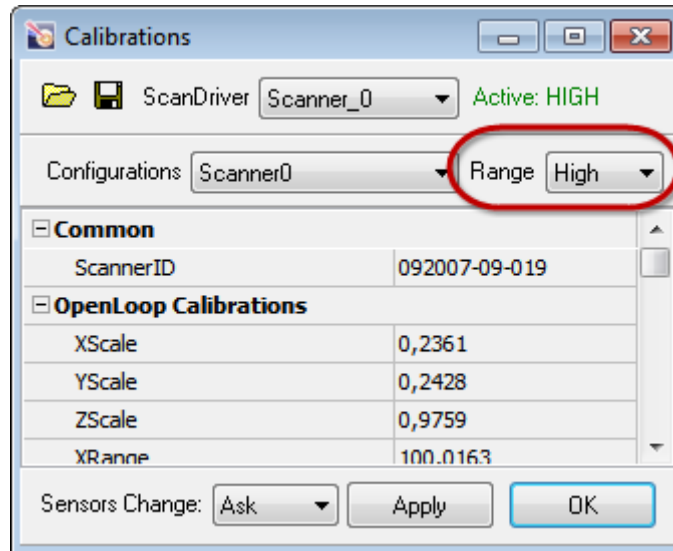

Fig. 7-10. Scanner operates in the high voltage mode
1. Open the **Calibrations** dialog box (see Fig. 7-10) by selecting the **Tools → Calibrations** menu command.